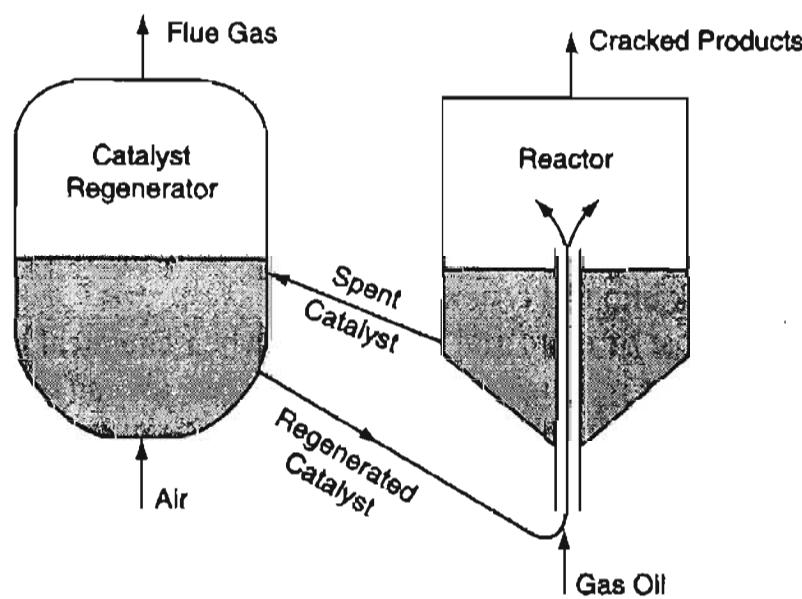

Figure 12.4 Diagram of a FCC process.
- Continuous catalyst regeneration.** Catalysts are used to increase the rate of chemical reactions, but their effectiveness can diminish with use (catalyst deactivation). Processes that use catalysts that deactivate at a relatively fast rate may require the onsite regeneration and recycling of the catalyst. For example, in a fluidized catalytic cracking (FCC) process (Figure 12.4), the cracking catalyst deactivates almost immediately upon contact with the gas oil feed at the reaction temperature because of the formation of coke on the surface of the catalyst. Therefore, the deactivated (spent) catalyst is transported to the catalyst regenerator where most of the coke is burned off the surface of the catalyst to restore the activity of the catalyst.